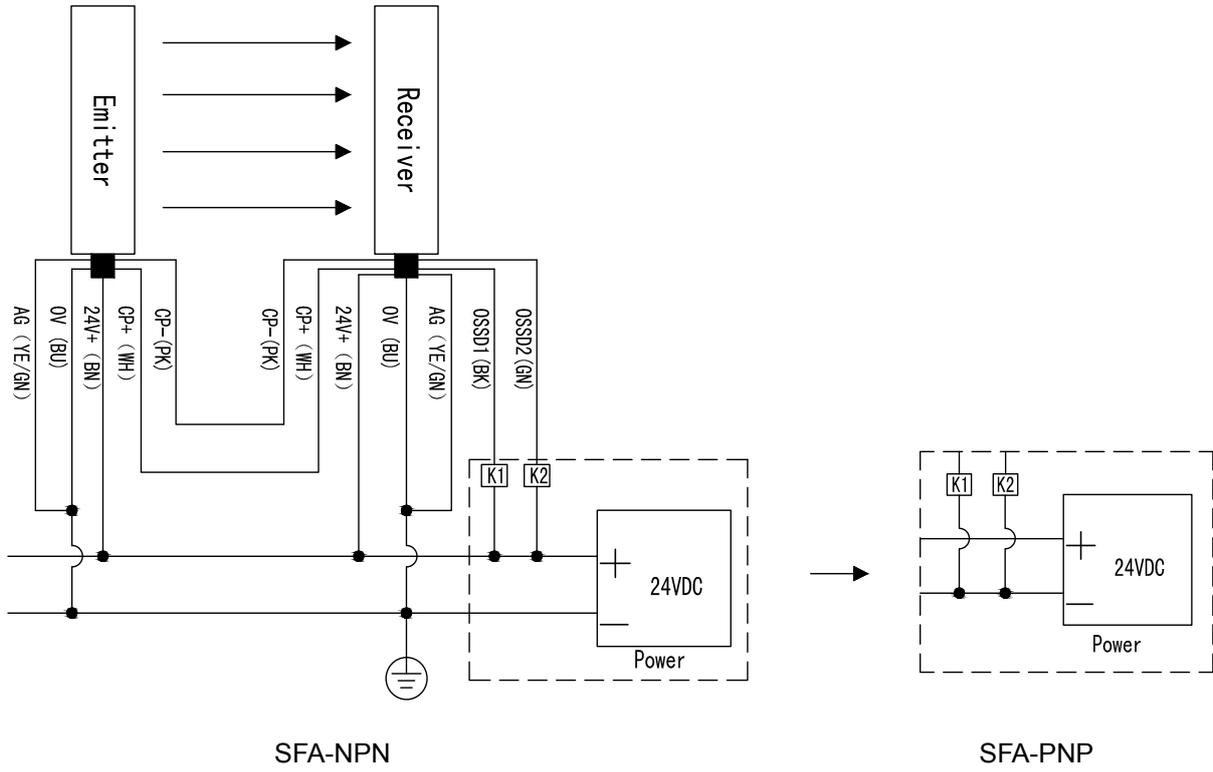

Fig.7-1 I/O wiring
- 4.Fig.7-1,7-2 K1,K2 and K3, Fig.7-5,7-6,7-7,7-8,7-9 K3 and K4 is the external device, should take the forced guide safety relay or magnetic contact